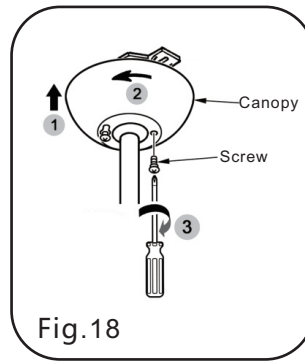

Fig.18
Step 2. Slide the canopy up towards the hanger bracket and place the key hole on the canopy over the screw on the hanger bracket, turn canopy until it locks in place at the narrow section of the key holes. (Fig. 18)
Step 3. Align the circular hole on canopy with the remaining hole on the hanger bracket, secure by tightening the two set screws.(Fig. 18)